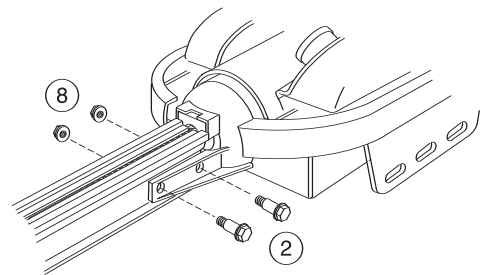

Figure 10 Bolt 1st Rail Section to Power Head
- C Connect first Rail Section to Opener Power Head. Connect with 2 (1/4"-20) (yellow) Hex Head Shoulder Bolts and 2 (1/4"-20) Hex Serrated Flange Nuts (Figure 10). **Finger-tighten until later.**